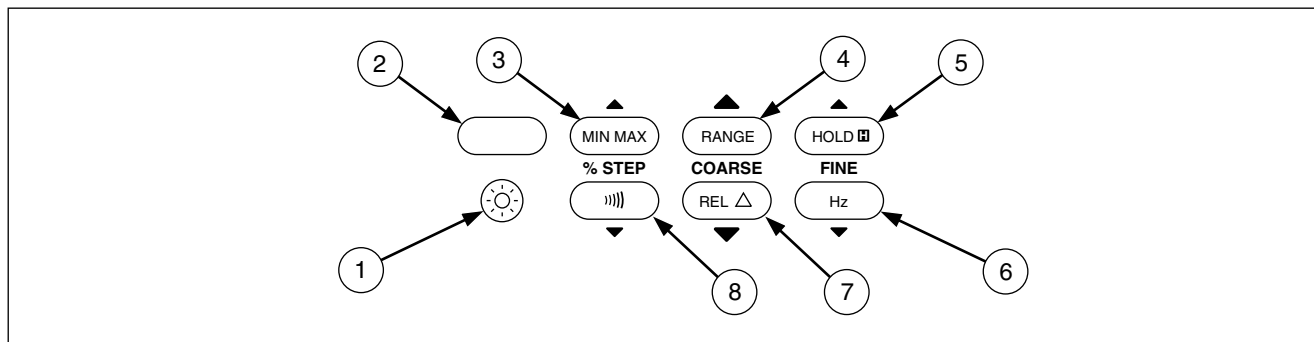

**Figure 4. Rotary Switch Positions for mA Output**
- Figure 4 and Table 4 describe the output functions you get with the last two rotary switch positions.